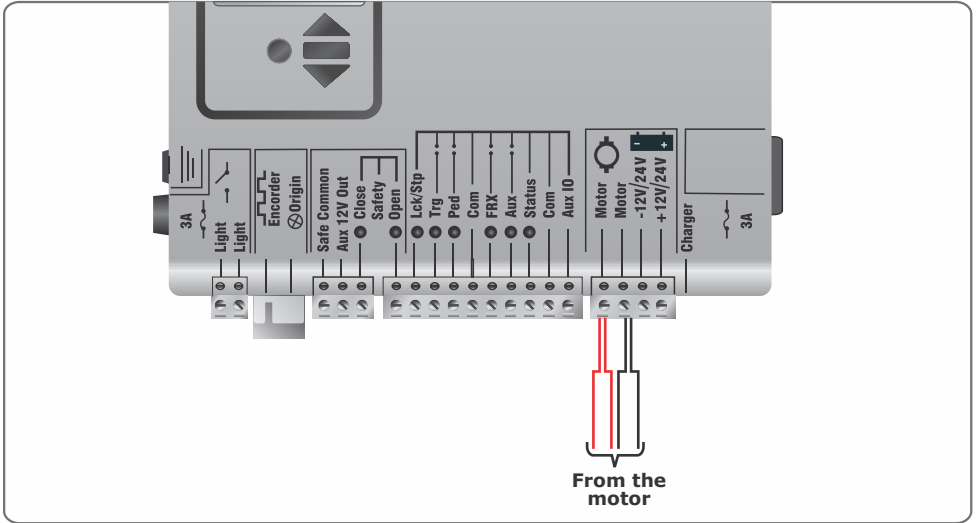

FIGURE 32
10. Connect the two batteries to the controller as shown in Figure 32.